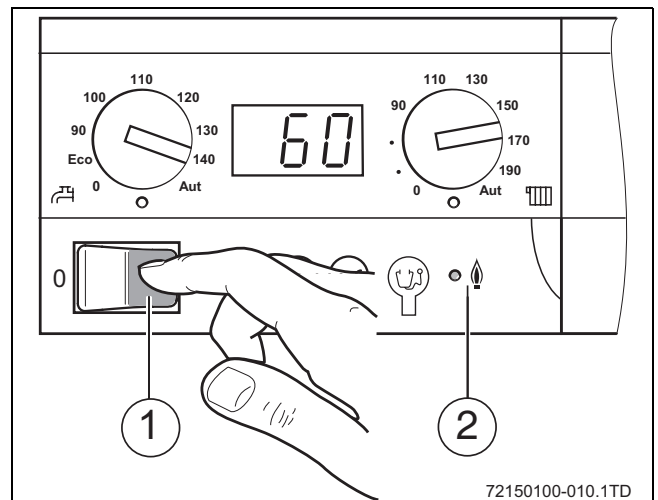

Fig. 7 Mains switch
- ▶ Switch on the heating system by setting the main switch to position "1" (→ fig. 7, [1]).
- ▶ Measure the gas connection pressure as soon as the “Burner” LED lights and enter this value in the start-up report (→ fig. 7, [2], page 7).
- ▶ Switch off the heating system using the main switch (→ fig. 7, [1], page 7).